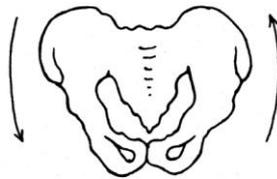

Figure 4: Pelvic obliquity as viewed in the coronal plane.
- **Pelvic obliquity:** this is rotation of the pelvis around the anterior-posterior axis visible from the front or back in the coronal plane and rotation is described as 'up' or 'down' (see figure 4).